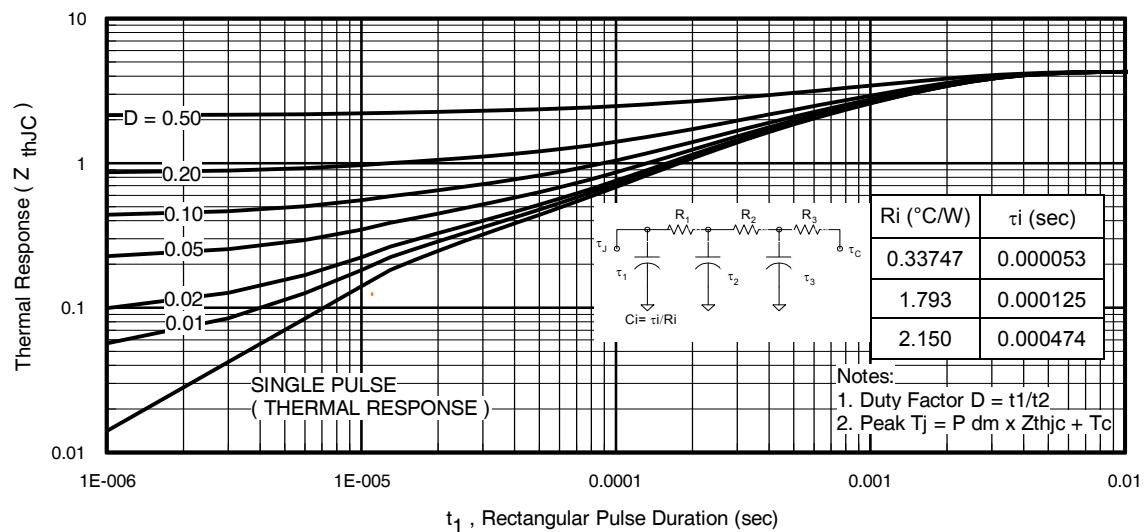
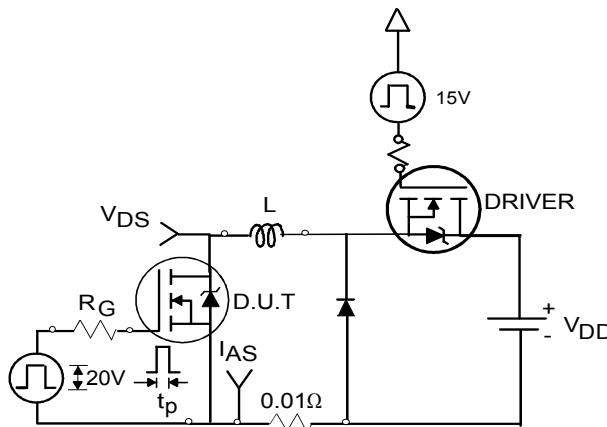

Fig 11. Maximum Effective Transient Thermal Impedance, Junction-to-Case
Fig 12a. Unclamped Inductive Test Circuit
- ① Repetitive rating; pulse width limited by max. junction temperature. (See fig. 11)
- ② Limited by T_{Jmax} , starting $T_J = 25^\circ\text{C}$, $L = 1.29\text{mH}$, $R_G = 25\Omega$, $I_{\text{AS}} = 5.2\text{A}$, $V_{\text{GS}} = 10\text{V}$. Part not recommended for use above this value.
- ③ Pulse width $\leq 1.0\text{ms}$; duty cycle $\leq 2\%$.
- ④ $C_{\text{oss eff.}}$ is a fixed capacitance that gives the same charging time as C_{oss} while V_{DS} is rising from 0 to 80% V_{DSS}
- ⑤ Limited by T_{Jmax} , see Fig.12a, 12b, 15, 16 for typical repetitive avalanche performance.
- ⑥ This value determined from sample failure population. 100% tested to this value in production.
- ⑦ When mounted on 1" square PCB (FR-4 or G-10 Material). For recommended footprint and soldering techniques refer to application note #AN-994
3. Equation below based on circuit and waveforms shown in Figures 12a, 12b.